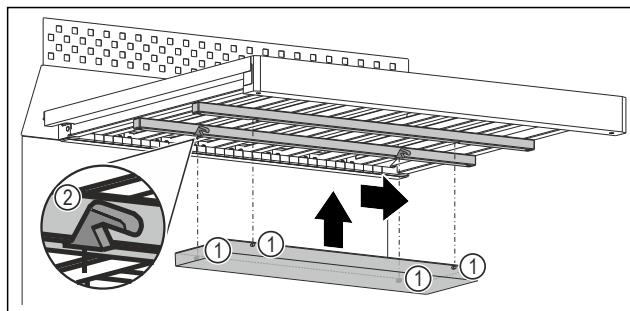

Fig. 110 Example illustration
- Insert each peg Fig. 110 (1) into the corresponding recess Fig. 110 (2) on the strips under the wooden grate.